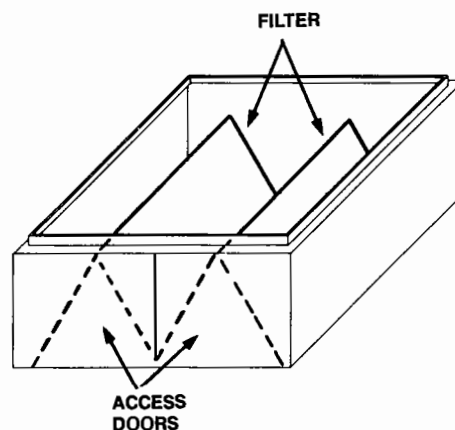

Fig. 15B — Filter Cabinet
1. Remove two front access doors by turning the two quarter turn plastic fasteners that secure the doors to the filter cabinet. (See Figure 15B.)